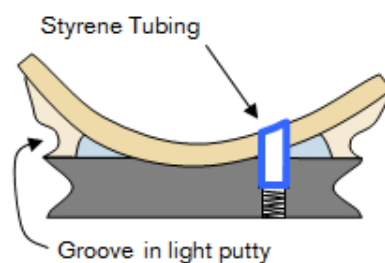

Figure 2
- 6) Shape putty to allow for tie in groove (see Fig. 2) and laminate per normal lamination procedures.